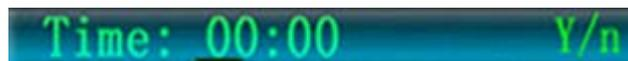

Figure 9
a. From the “Settings Menu” Click the power button to select “Record”, then Press the power button to enter the start time of data storage test (see figure 9).